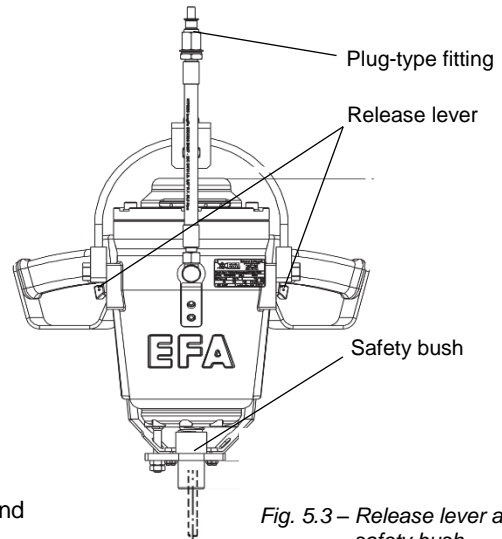
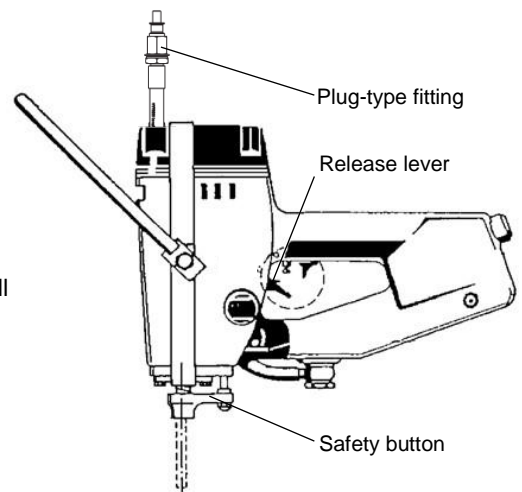
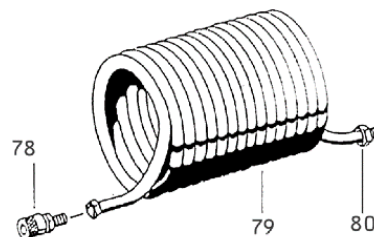

Fig. 5.3 – Release lever and safety bush
Fig. 5.4 – Release lever and safety button
Fig. 5.5 – Spiral hose with coupling
Before connecting (see Fig. 5.3, Fig. 5.4, Fig. 5.5)
Pull back the knurled sleeve of the safety rapid action coupling (A), see *Fig. 5.5 – Spiral hose with coupling*, and hold it against the stop.